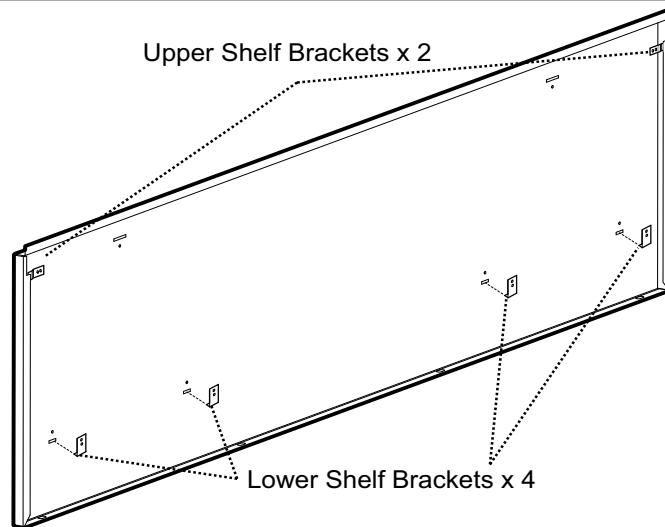

Figure 13: 48" Back of Wall Plate
2. Mount the (2) upper shelf brackets and the (3) lower shelf brackets at the locations outlined on the templates. Secure with (10) 1" (25.4 mm) screws provided.
5. Install the wall plate by setting the corner notches (back of wall plate) atop the (2) upper shelf brackets.
6. Slide the shelf upwards until the bottom engages with the lower brackets (*Figure 13*).